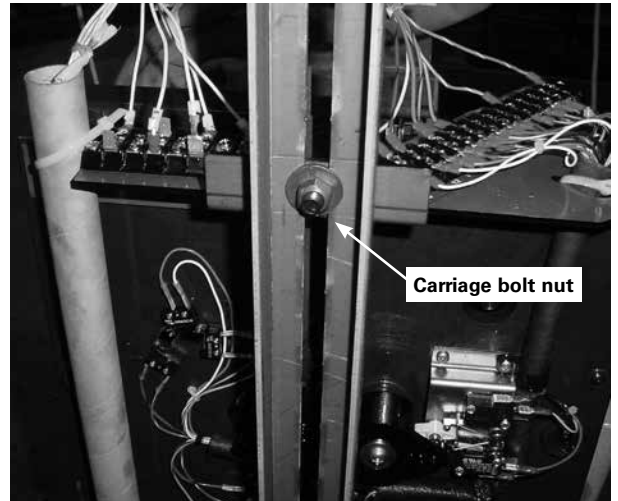

Figure 4. Tap changer and side channel fastener
3. Use a 9/16" socket and ratchet to loosen and remove the nut and carriage bolt fastening the tap changer bracket to the regulator side channel. See Figure 4.
28. Place the carriage bolt into the square hole of the tap changer top bracket. Place the 9/16" nut with washer onto the bolt through the side channel and tighten with the socket and ratchet. See Figure 4.